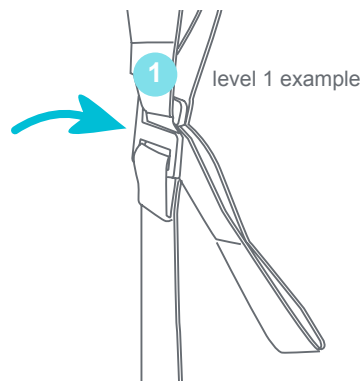

Fig. 3f
- Use level 1 to place the platform in the highest position, level 2 for middle position and level 3 for the lowest position (Fig. 3f).